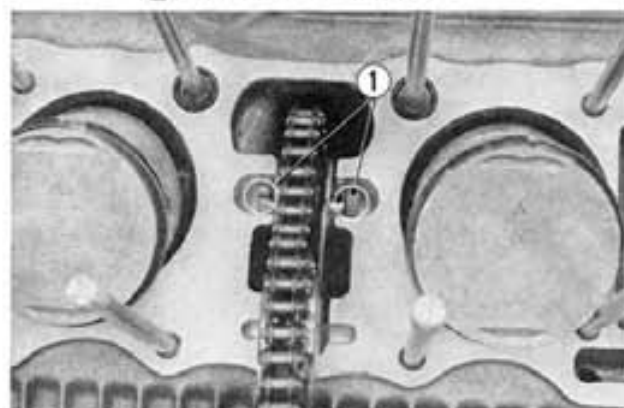

Fig. 3-35 ① Tensioner roller mounting rubbers
1. Route the cam chain through the cam chain tensioner roller, mount it on the upper crankcase and install the mounting rubbers. (Fig. 3-35)